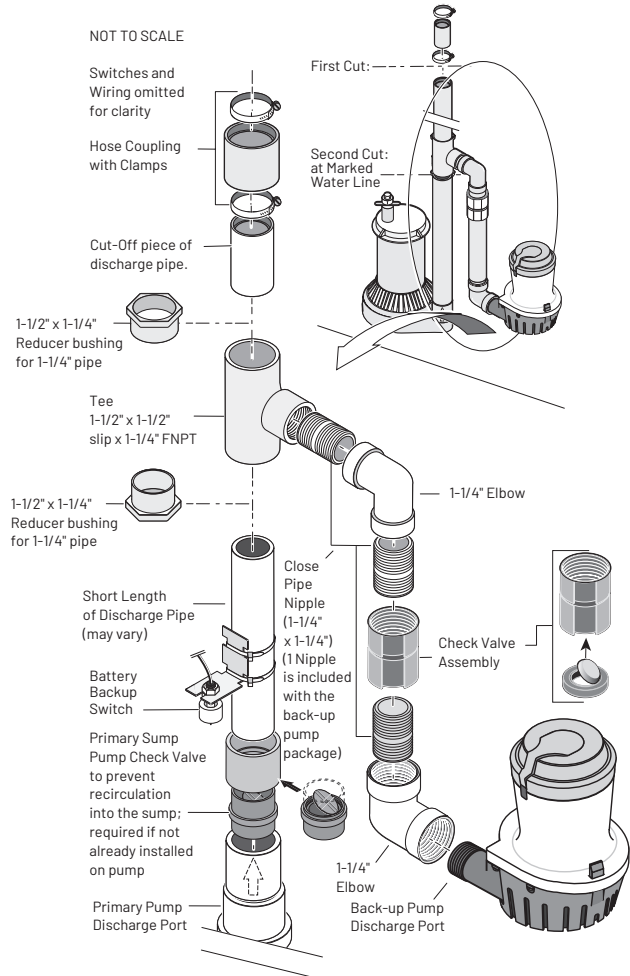

FIGURE 3: METHOD A INSTALLATION
- NOTE:** Make sure the check valve is installed in the correct direction. See the inset drawing in Figure 3.